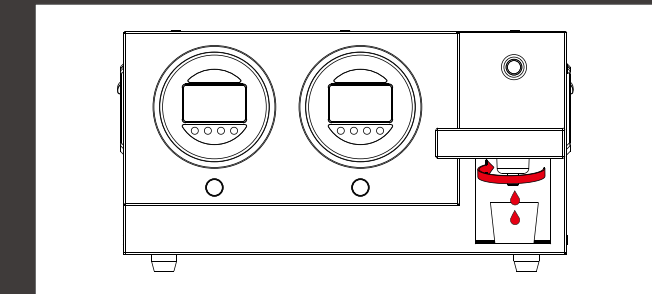

Figure 1-3
B. Put a container under the liquid collector. Unscrew the cap to the liquid collector by turning it counterclockwise (see figure 1-3).